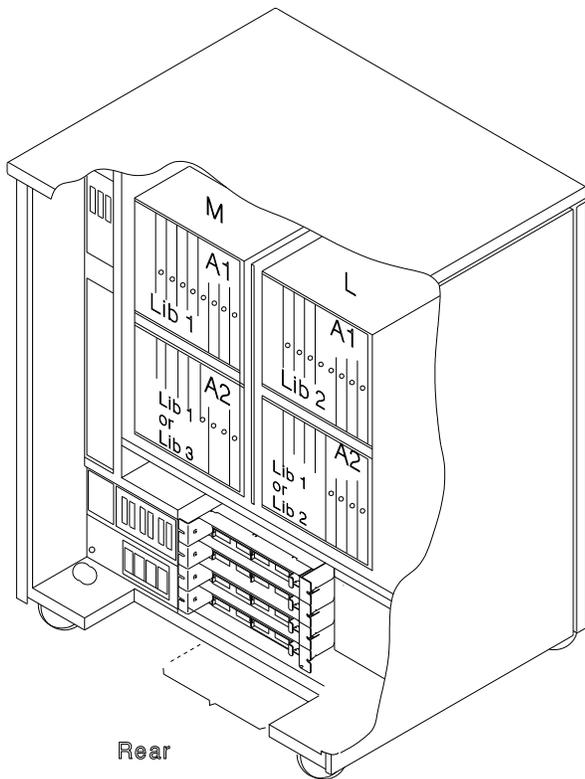
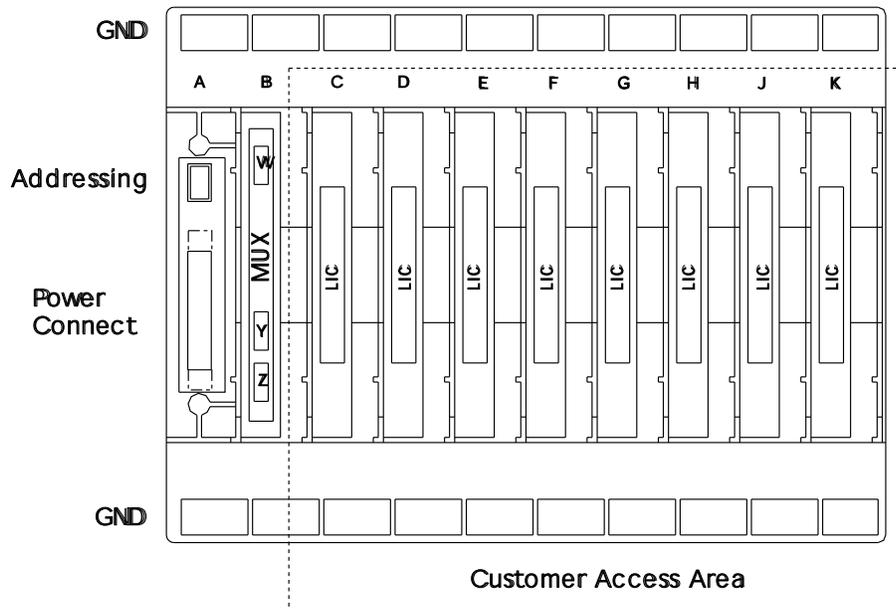
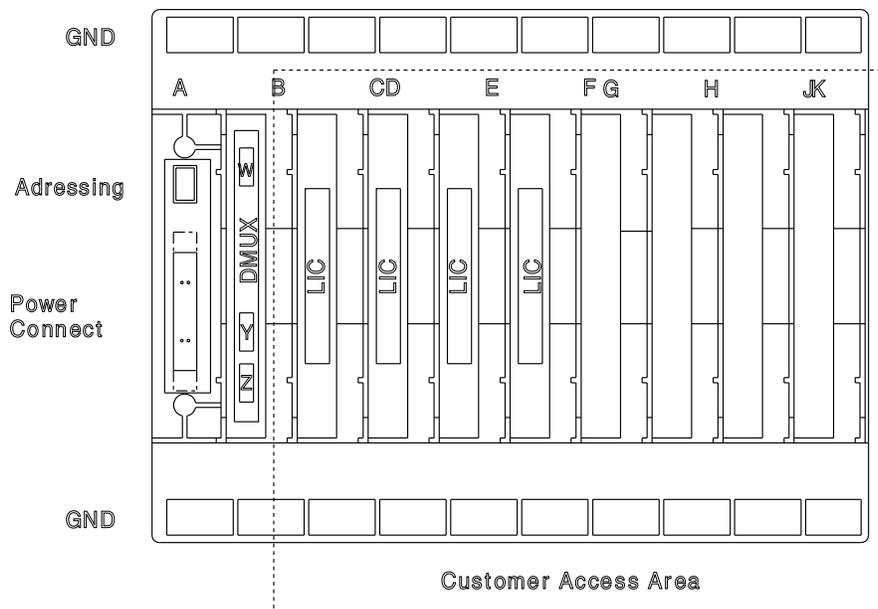

Figure 4-54. Location of the LIC Boards
Figure 4-56. LIC Board Type 1 and 2
Figure 4-57. LIC Board Type 3
1. For physical locations, refer to Figure 4-54, Figure 4-56, and to Figure 4-57 on page 4-45.